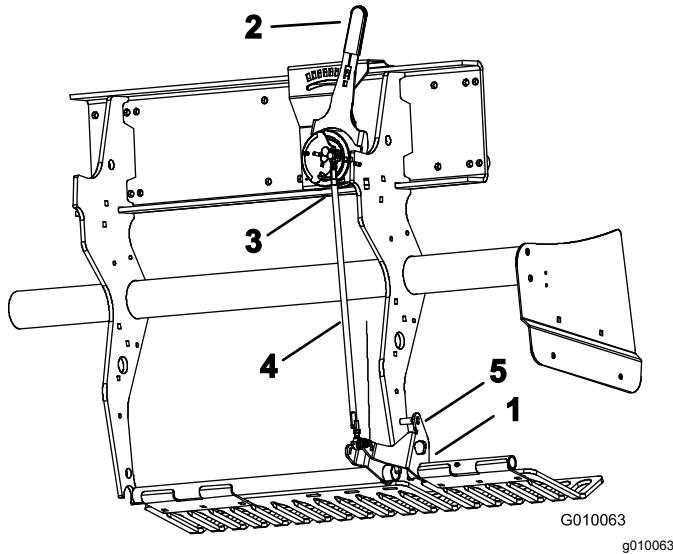

Figure 59
2. Rotate the left turf guard mounting bracket (Figure 59) up until you can insert a locking pin, such as an 8 mm (5/16 in) drill rod or bolt, between the bracket and the depth setting tube welded to the frame.
3. Move the tine depth lever (Figure 59) to the H setting (deepest).
4. Disconnect the outboard ball switch (Figure 59) from the wire harness (Head-Low switch).
5. Loosen the jam nuts (left and right) on the depth adjustment tie rod (Figure 59).